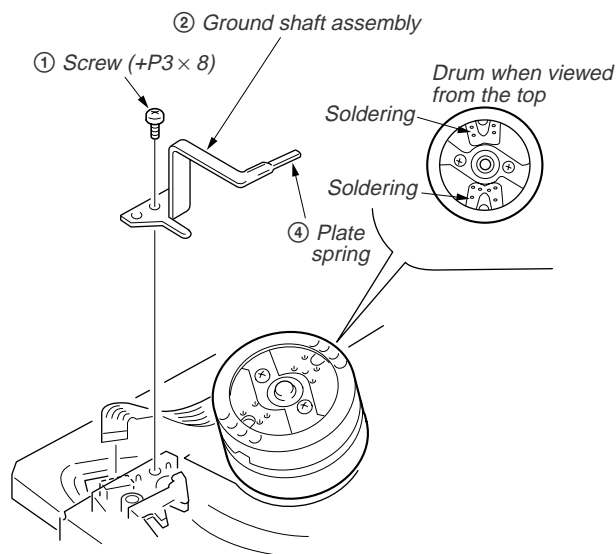

Fig. 4
- 1) Remove screw ① (+P3 × 8) and remove the ground shaft assembly ②. (Refer to Fig. 4.)